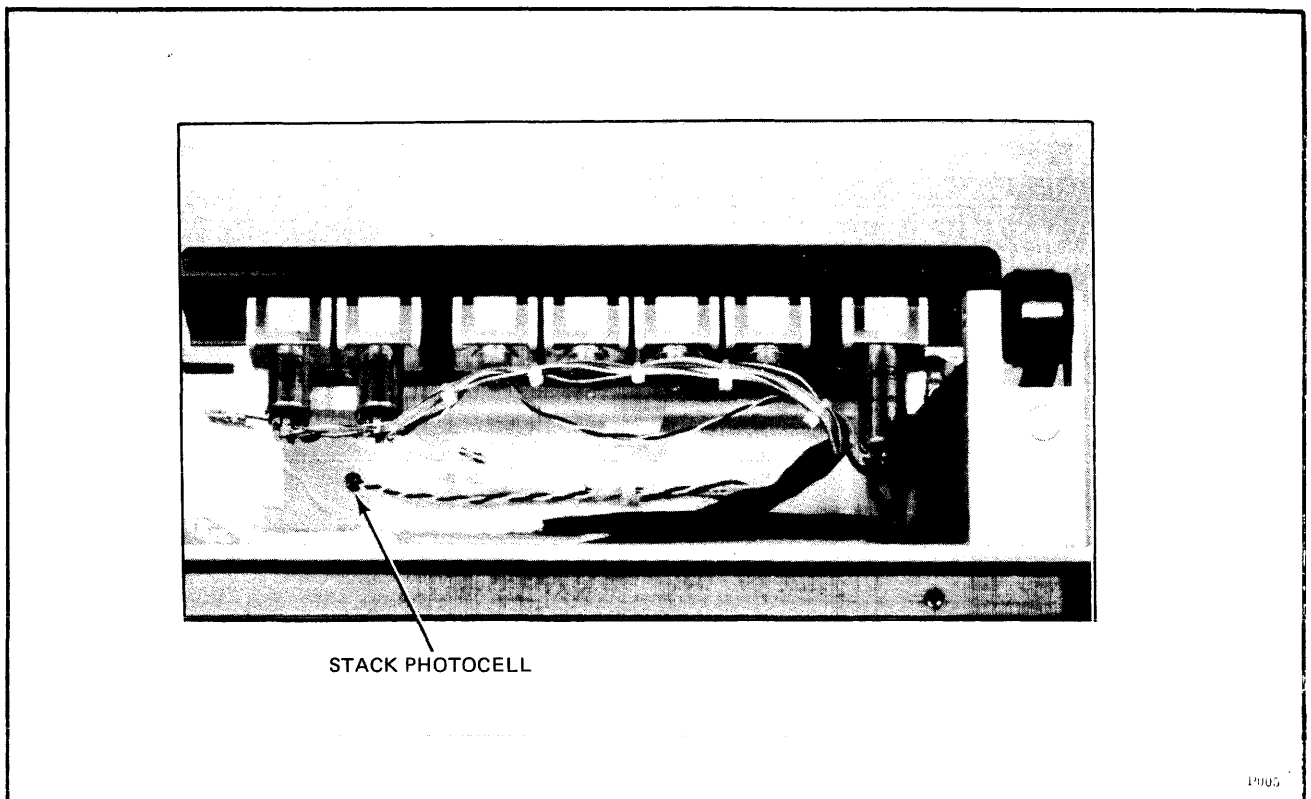

Figure 9-19. Location of Stack Photocell .
- i. Remove photocell from rear of stack support casting, Figure 9-19.